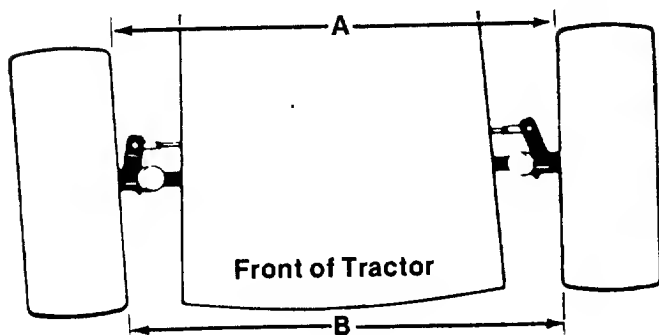

**FIGURE 18.**
1. Remove the hex nut and lock washer, and drop the tie rod end from the wheel bracket. See figure 18.